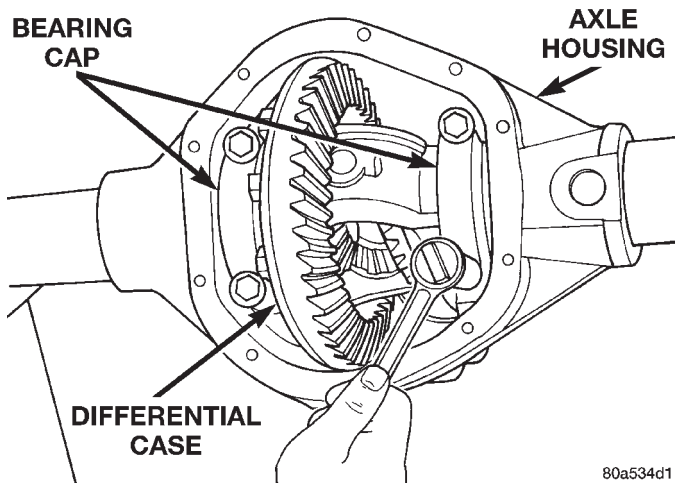

Fig. 47 Tighten Bolts Holding Bearing Caps—Typical
(3) Install ring gear on differential case and tighten bolts to specification.
(4) Install dummy side bearings 6928 on differential case.
(5) Install differential case in axle housing.
(6) Install the marked bearing caps in their correct positions. Install and snug the bolts (Fig. 47).